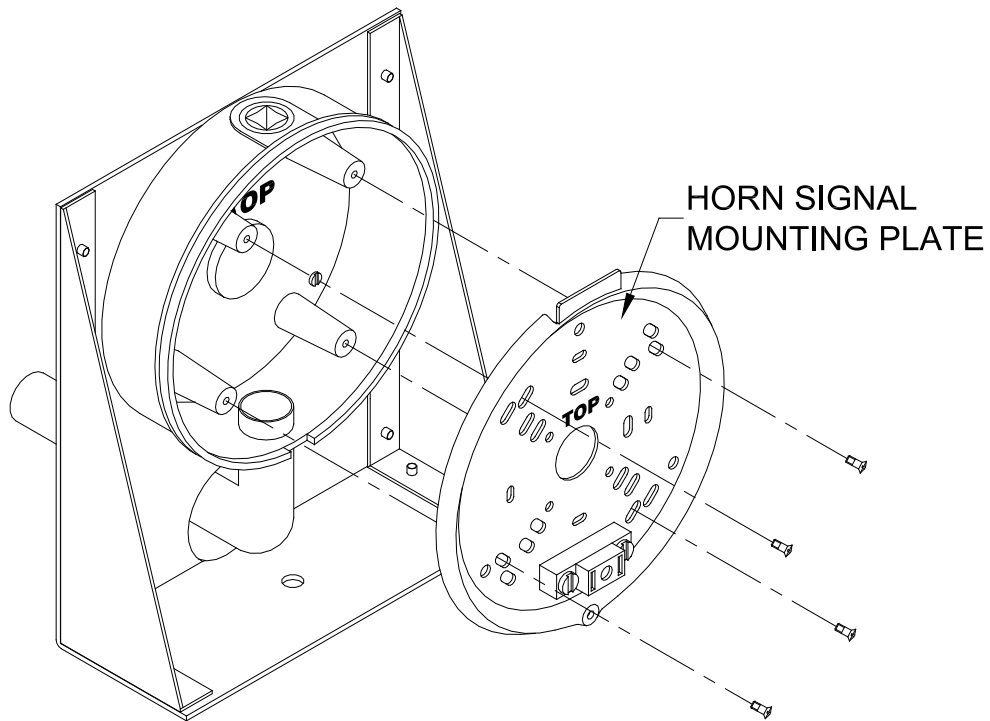

Figure 11 Horn Signal Mounting Plate Attachment
12. Align the horn signal mounting plate with the back box so that the word "TOP" on the horn signal mounting plate and the back box should be oriented in the same direction and the screw hole on the bottom edge of the horn signal mounting plate should be directly over the gap in the back box gasket as seen in figure 11.